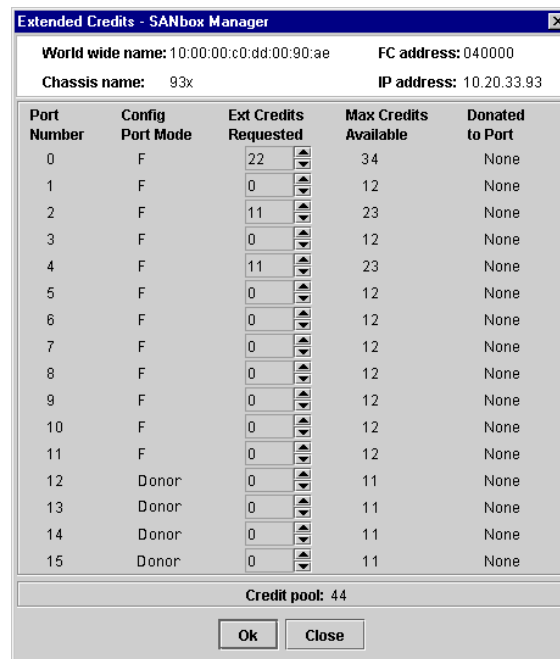

Figure 5-3. Extended Credits Window
2. In the faceplate display, select the recipient ports. Recipient ports must be configured as G_Ports or F_Ports. Open the Port menu and select **Extended Credits**. This opens the Extended Credits window shown in Figure 5-3.